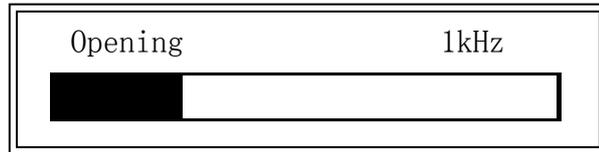

Figure 4-8. Open Correction Information
- 3) Press **OpSWP**. TX7500 Series will measure the open admittance (capacitance, and inductance) at all frequency points. Figure 4-8 shows the open correction information.